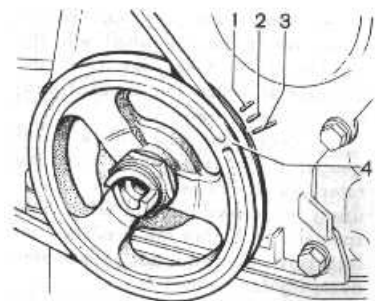

Fig 42. Timing marks on pulley and valve gear drive cover. 1- 10°, 2- 5°, 3- 0°, 4- mark on pulley
- Turn on the ignition and slowly rotate the crankshaft with the starting crank; with the ignition set properly, the test lamp should come on when mark 4 (Fig. 42) on the crankshaft pulley is aligned with mark 2 on the timing gear cover, and the contact of rotor 2 (Fig. 41) should be opposite the contact of the No. 1 cylinder on the distributor cap.
- Rotate the crankshaft with the starting crank to set it in the position at which the rotor contact faces the contact of the No. 1 cylinder on the distributor cap, and mark 4 (Fig. 42) is aligned with mark 2 (in this position the piston of the No. 1 cylinder will be 5° before TDC as measured in crankshaft degrees);